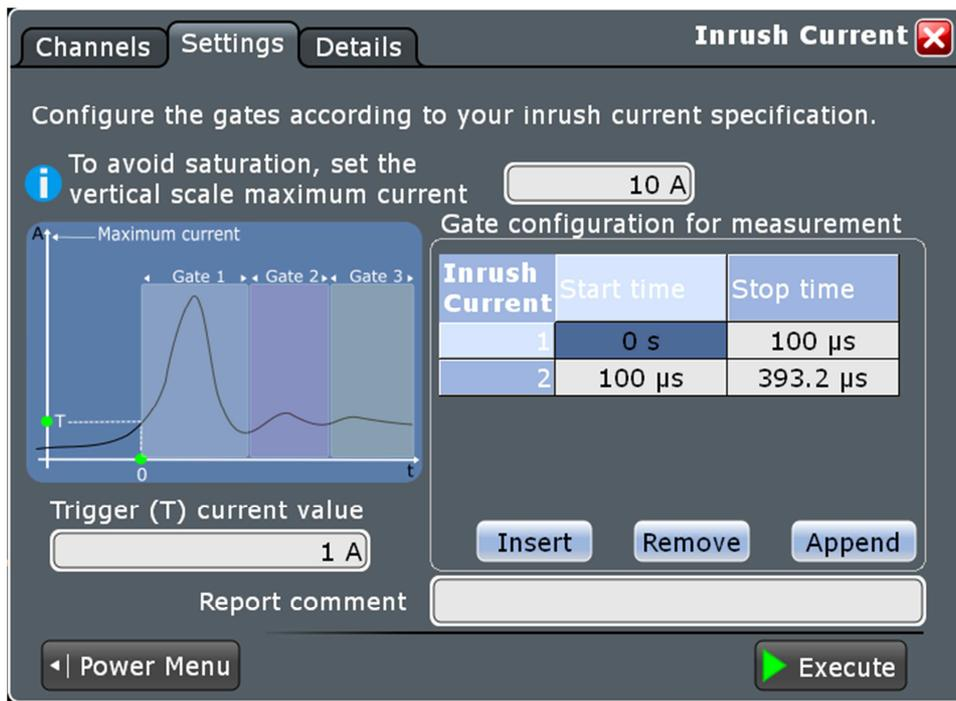

Figure 14: Setting options for the Inrush Current measurement
- (4) Touch the 'Settings' tab, and enter the maximum current expected and set the trigger level in the field labeled "Trigger (T) current value" (Figure 14).